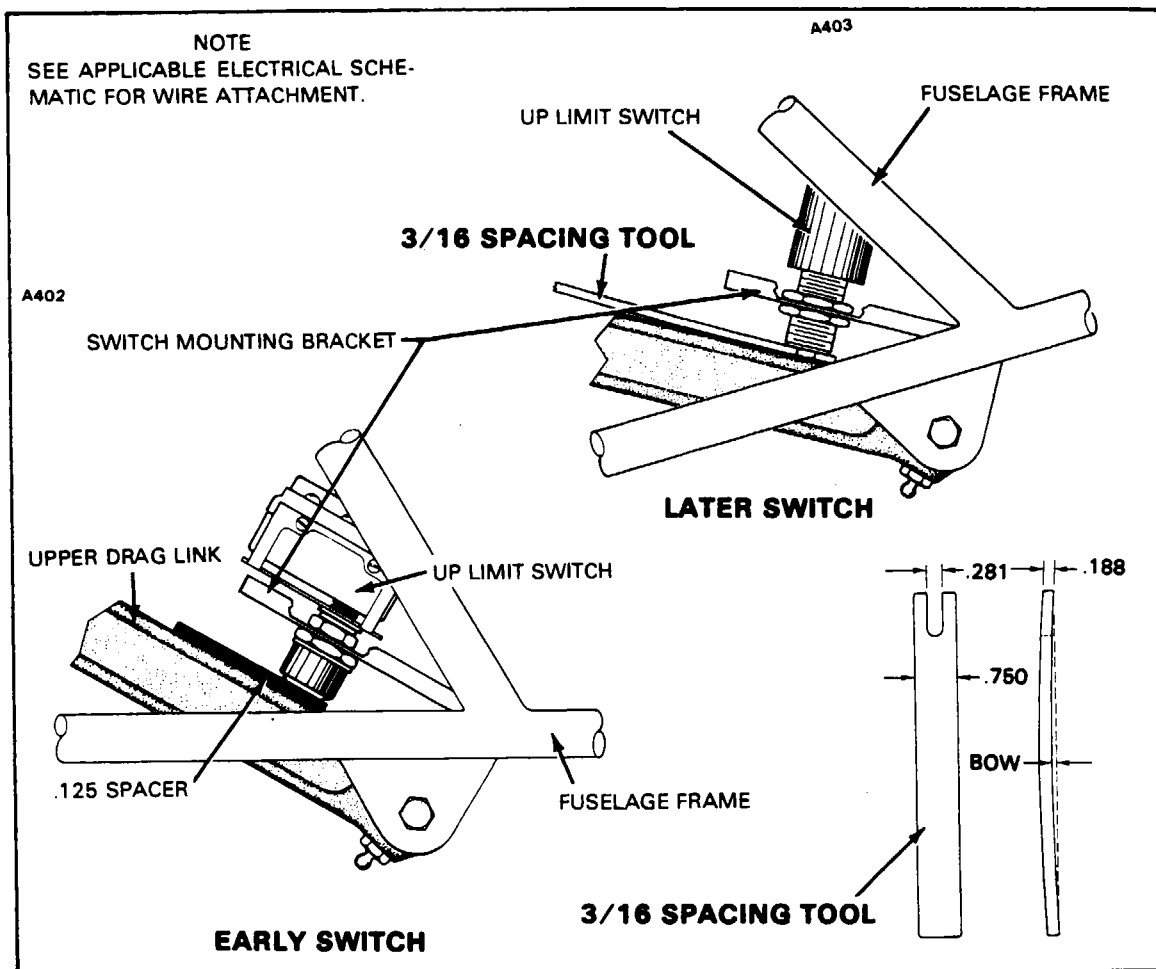

Figure 7-17. Adjustment of Nose Gear Up Limit Switch
7-42. ADJUSTMENT OF NOSE GEAR UP LIMIT SWITCH. (Refer to Figure 7-17.) The nose gear up limit switch, located just above the upper drag link assembly and aft of the timer check valve on PA-23-250 (six place), Serial Nos. 27-2505 and up, may be adjusted by the following procedure:
- d. On the models with the early switches, adjust the switch by loosening the locknut and the switch mounting nut. Then rotate the nuts in whichever direction provides the necessary clearance when a .125 inch spacer is placed between the upper drag link and the switch actuator. On models with the later switches, rest tool on switch actuator button between the upper drag link and the switch actuator. Adjust in same manner as above. For configuration of tool, refer to Figure 7-17.
b. Rest tool on switch actuator button between the latch and the switch actuator. Adjust the switch by loosening the locknut and the switch mounting nut. Then rotate the nuts in whichever direction provides the necessary clearance for snug fitting of tool. For configuration of tool, refer to Figure 7-17.